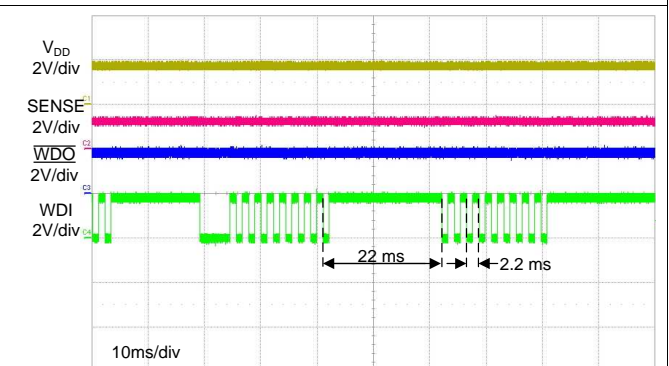

Figure 39. Window Watchdog Timing
In this application, the window watchdog timing options are based on the PWM signal that is provided to the TPS3850-Q1. A window watchdog setting must be chosen such that the falling edge of the PWM signal always falls within the window. A nominal window must be designed with $t_{WDL(max)}$ less than 5 ms and $t_{WDU(min)}$ greater than 5 ms. There are several options that satisfy this window option. An external capacitor can be placed on the CWD pin and calculated to have a sufficient window. Another option is to use one of the factory-programmed timing options. An additional advantage of choosing one of the factory-programmed options is the ability to reduce the number of components required, thus reducing overall BOM cost. Leaving the CWD pin unconnected (NC) with SET0 = 0 and SET1 = 1 produces a $t_{WDL(max)}$ of 2.22 ms and a $t_{WDU(min)}$ of 23.375 ms; see Figure 39.